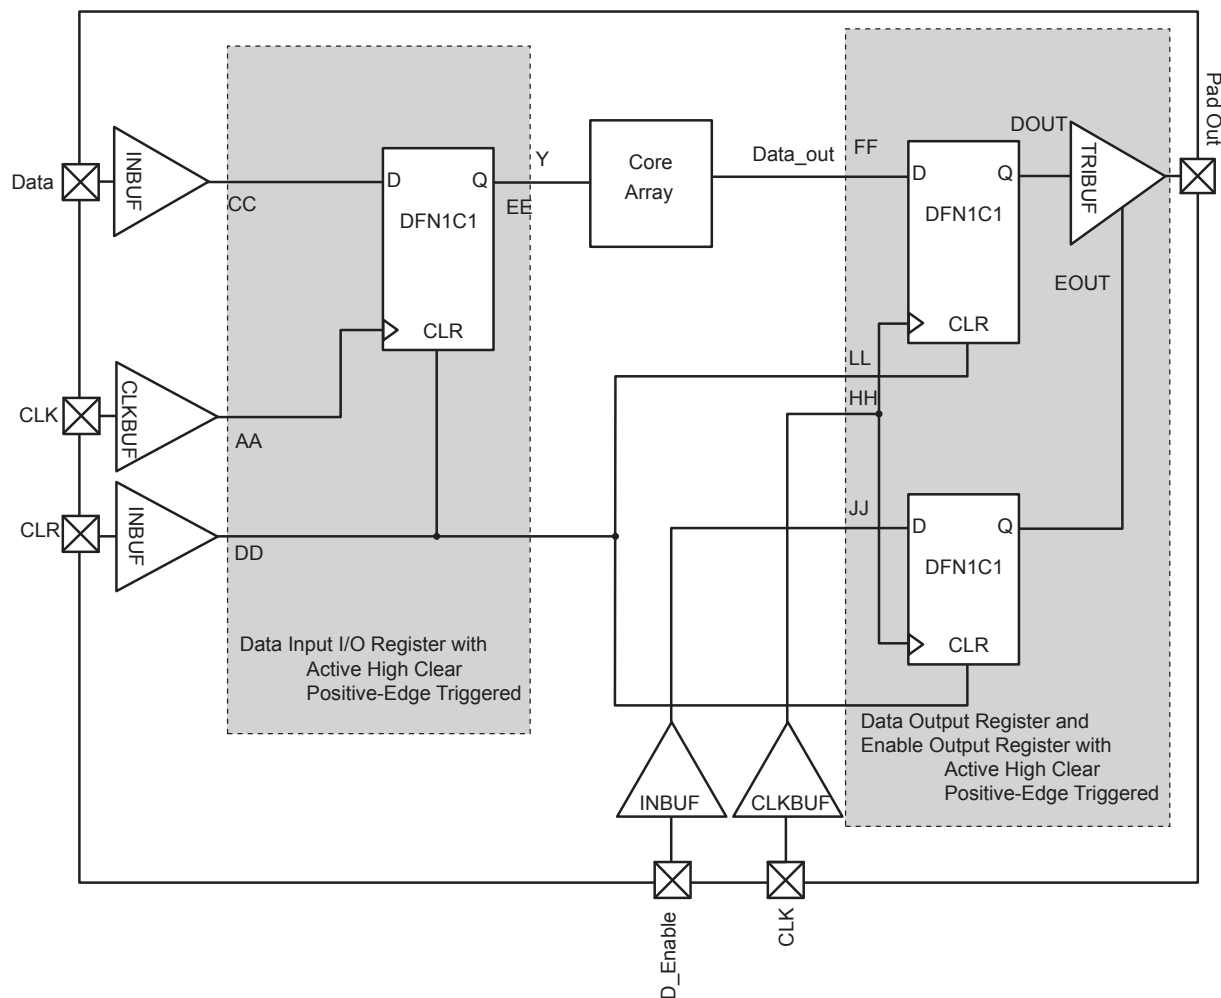

Figure 2-13 • Timing Model of the Registered I/O Buffers with Asynchronous Clear
**Note:** \*See Figure 2-13 on page 2-43 for more information.